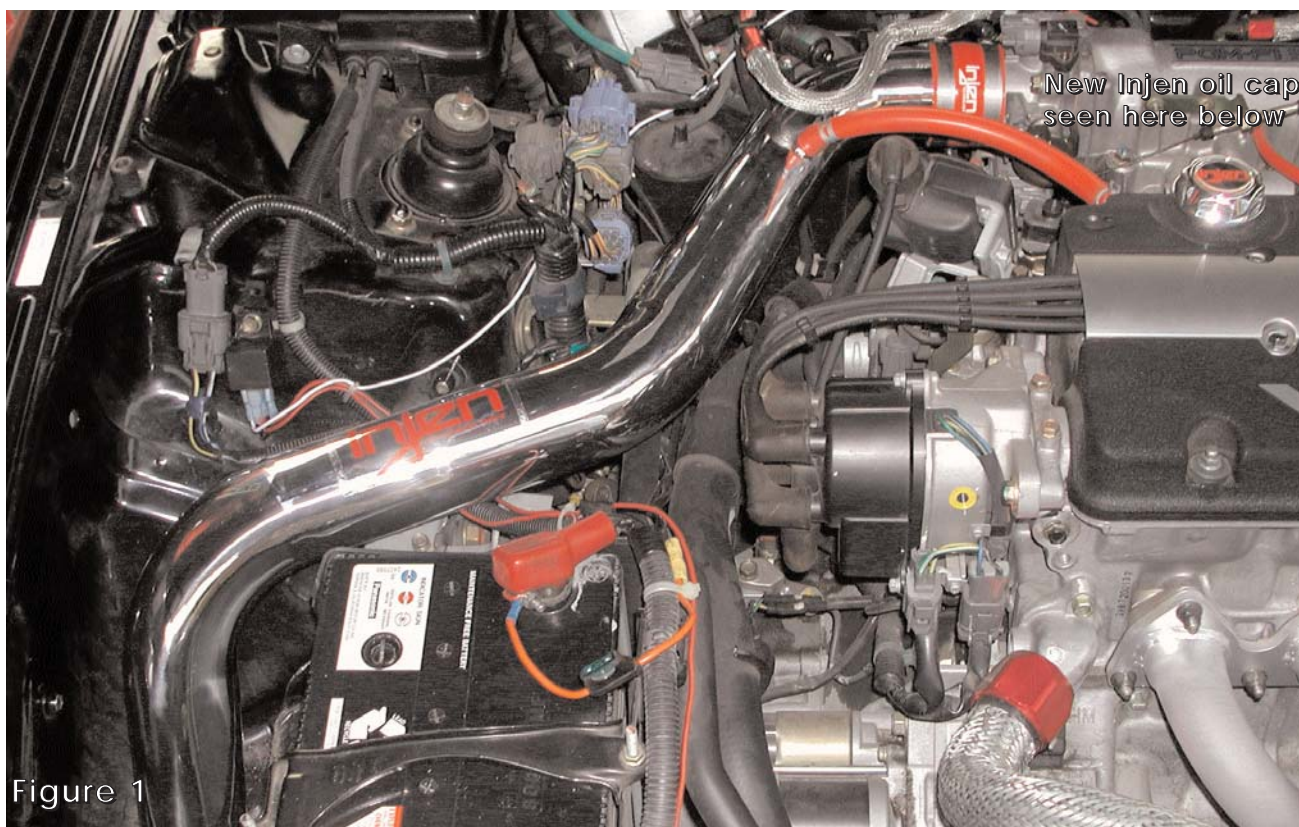

Figure 1
8. Align the entire cold air intake for best fit. There should be no rubbing anywhere along the length of the intake. See fig. 1 Once proper clearance has been made continue to tighten all nuts, bolts and clamps.